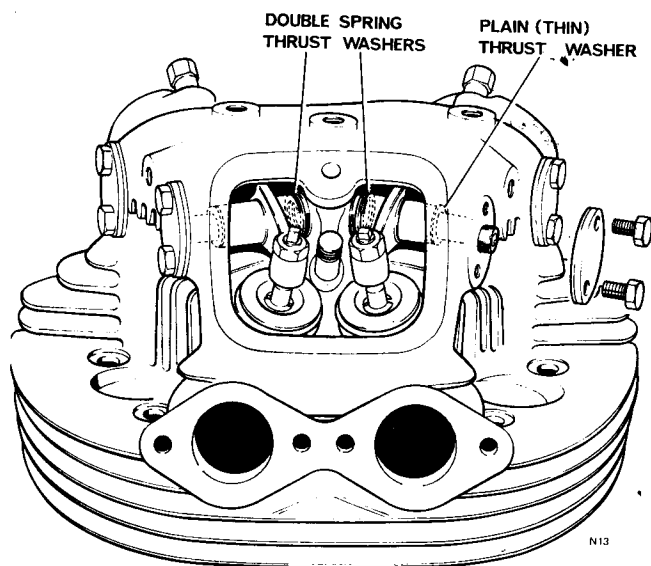

Fig. C4 Rocker thrust washers and securing plates.
- 1 Remove the two set screws retaining each rocker spindle cover plate (see *Fig. C4*).
- 4 Lift out the rockers and collect the plain and double spring thrust washers. On each rocker the plain thrust washer is outboard of the rocker and the double spring washer inboard (see Fig. C4).